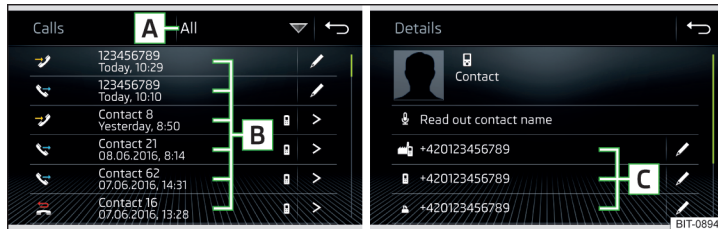

Fig. 201 Call history / Contact details
› In the *Telephone* main menu, tap on the function surface  and a call list will be displayed » Fig. 201.
- > Display the contact details » Fig. 201